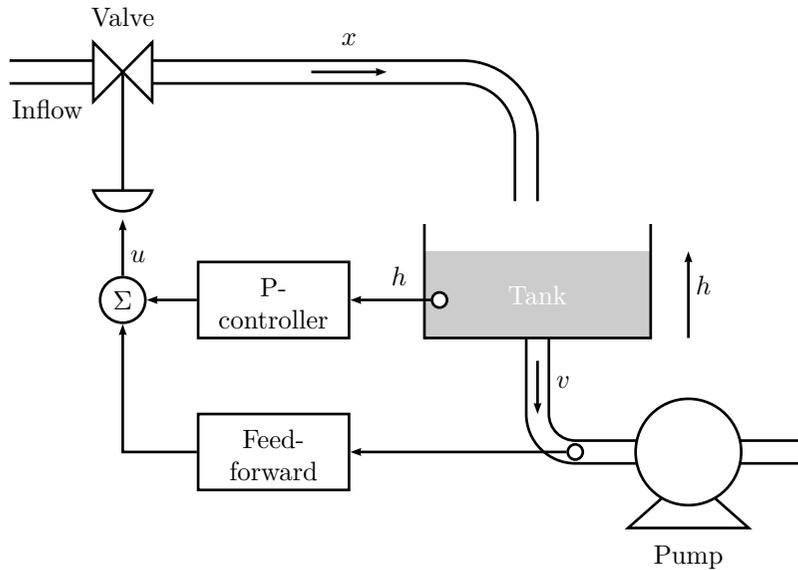

Figure 7.2a
7.2 A level control system for a water tank is shown in Figure 7.2a, where all variables denote offsets from an operation point. The inflow, $x(t)$, to the tank is determined by the valve, and the outflow, $v(t)$, is determined by the pump. Stu Dent has got the assignment to keep the water level in the tank constant, in spite of variations in the outflow $v(t)$. First, Stu determines the transfer function $G_v(s)$ from the valve to $x(t)$. By step response experiments, he obtains the following result: